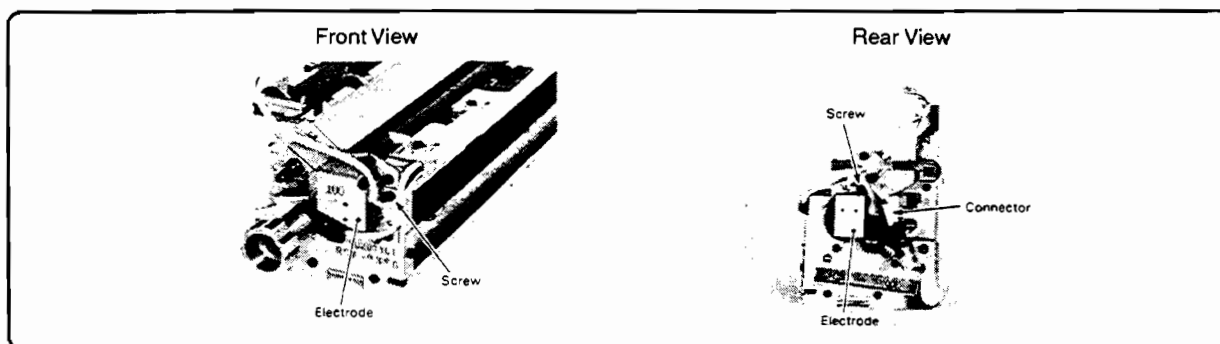

Figure 6-77. Removing the Heater Lamp
3. Remove the single screw and detach the front electrode (Figure 6-77).